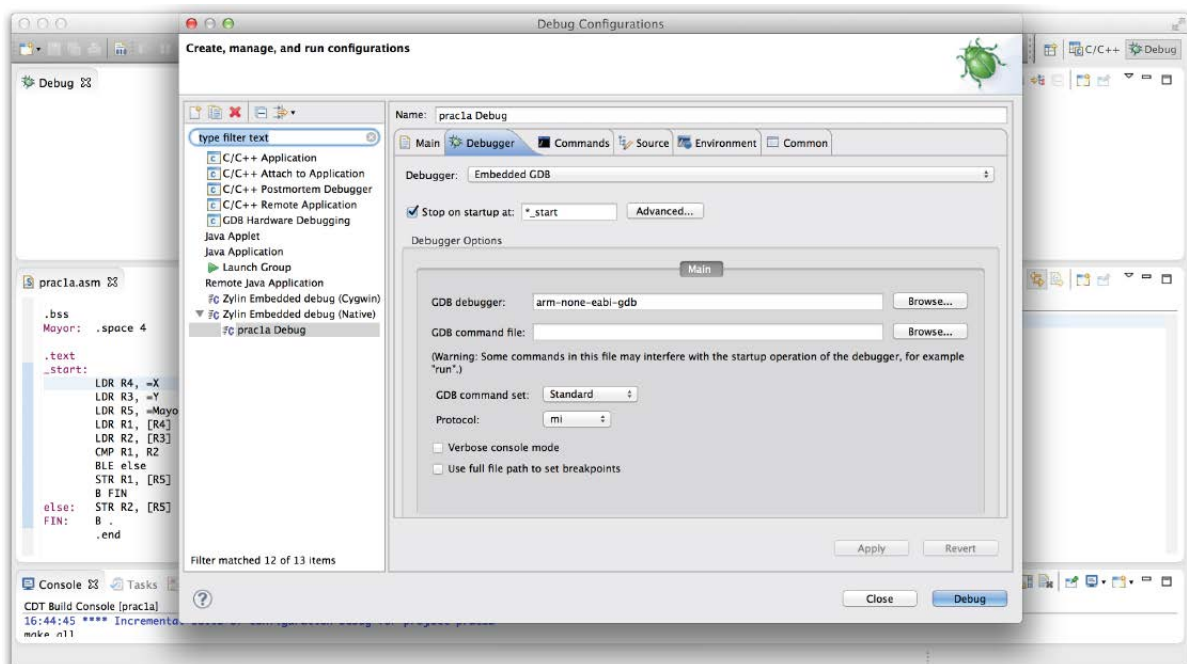

Figure 1.15 The debugger tab of the Zylín debugging configuration
- Debugger: on this tab we choose the debugger to be used. In the laboratory, the path to the cross toolchain has already been added to the user's path, so just put the name of the debugger in the entry GDB debugger: arm-none-eabi-gdb. Additionally, at the top we can insert a temporary breakpoint if we want. We will place this breakpoint in the address of the start symbol, by writing *start in the box Stop on startup at:. The result is shown in Figure 1.15.